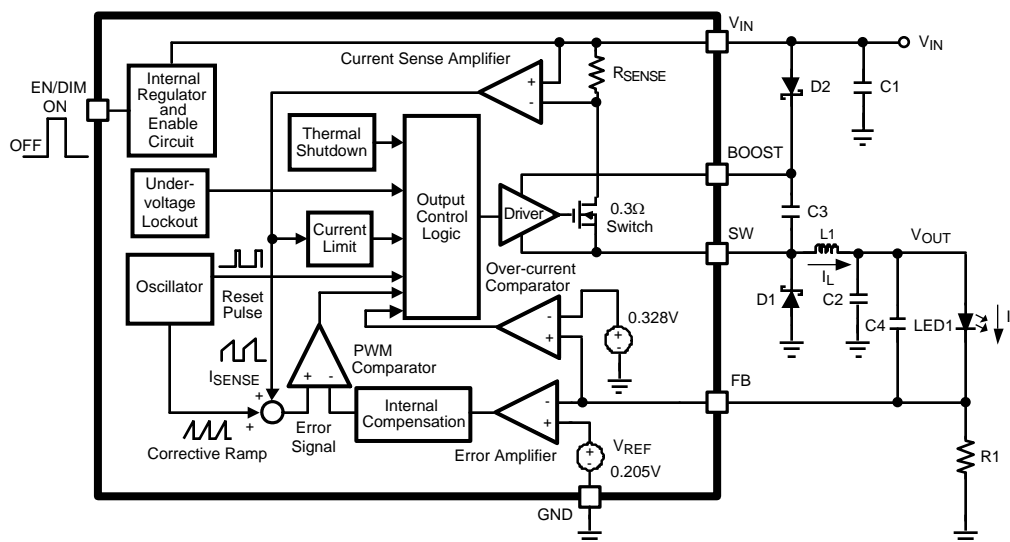
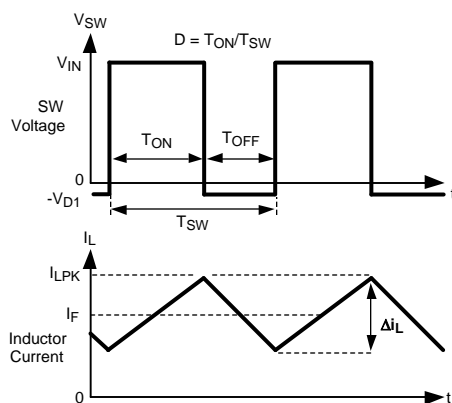

Figure 13. Simplified Block Diagram
Figure 14. SW Pin Voltage and Inductor Current Waveforms of LM3405
The following description of operation of the LM3405 will refer to the Simplified Block Diagram (Figure 13) and to the waveforms in Figure 14. The LM3405 supplies a regulated output current by switching the internal NMOS power switch at constant frequency and variable duty cycle. A switching cycle begins at the falling edge of the reset pulse generated by the internal oscillator. When this pulse goes low, the output control logic turns on the internal NMOS power switch. During this on-time, the SW pin voltage (V_{SW}) swings up to approximately V_{IN} , and the inductor current (I_L) increases with a linear slope. I_L is measured by the current sense amplifier, which generates an output proportional to the switch current. The sense signal is summed with the regulator's corrective ramp and compared to the error amplifier's output, which is proportional to the difference between the feedback voltage and V_{REF} . When the PWM comparator output goes high, the internal power switch turns off until the next switching cycle begins. During the switch off-time, inductor current discharges through the catch diode D1, which forces the SW pin to swing below ground by the forward voltage (V_{D1}) of the catch diode. The regulator loop adjusts the duty cycle (D) to maintain a constant output current (I_F) through the LED, by forcing FB pin voltage to be equal to V_{REF} (0.205V).
Capacitor C3 and diode D2 in Figure 13 are used to generate a voltage V_{BOOST} . The voltage across C3, $V_{BOOST} - V_{SW}$, is the gate drive voltage to the internal NMOS power switch. To properly drive the internal NMOS switch during its on-time, V_{BOOST} needs to be at least 2.5V greater than V_{SW} . Large value of $V_{BOOST} - V_{SW}$ is recommended to achieve better efficiency by minimizing both the internal switch ON resistance ($R_{DS(ON)}$), and the switch rise and fall times. However, $V_{BOOST} - V_{SW}$ should not exceed the maximum operating limit of 5.5V.
The first method is shown in the Simplified Block Diagram of Figure 13. Capacitor C3 is charged via diode D2 by V_{IN} . During a normal switching cycle, when the internal NMOS power switch is off (T_{OFF}) (refer to Figure 14), V_{BOOST} equals V_{IN} minus the forward voltage of D2 (V_{D2}), during which the current in the inductor ($L1$) forward biases the catch diode D1 (V_{D1}). Therefore the gate drive voltage stored across C3 is:
The inductor value determines the output ripple current (Δi_L , as defined in Figure 14). Lower inductor values decrease the size of the inductor, but increases the output ripple current. An increase in the inductor value will decrease the output ripple current. The ratio of ripple current to LED current is optimized when it is set between 0.3 and 0.4 at 1A LED current. This ratio r is defined as: